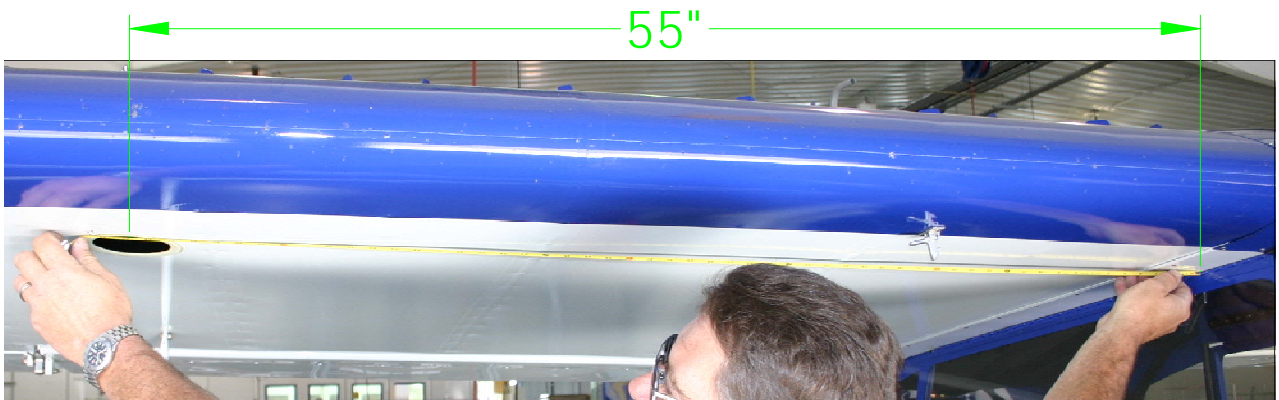

Figure 1: 55 inches from closed window to center of inspection ring
1. Bond on TC3017-001 (Inspection ring) using RM0568-001 (Loctite 330 Adhesive) 55" from closed window (see **Figure 1**) to center of ring and 6 5/8" back from leading edge skin (see **Figure 2**). Allow one hour for adhesive to cure.